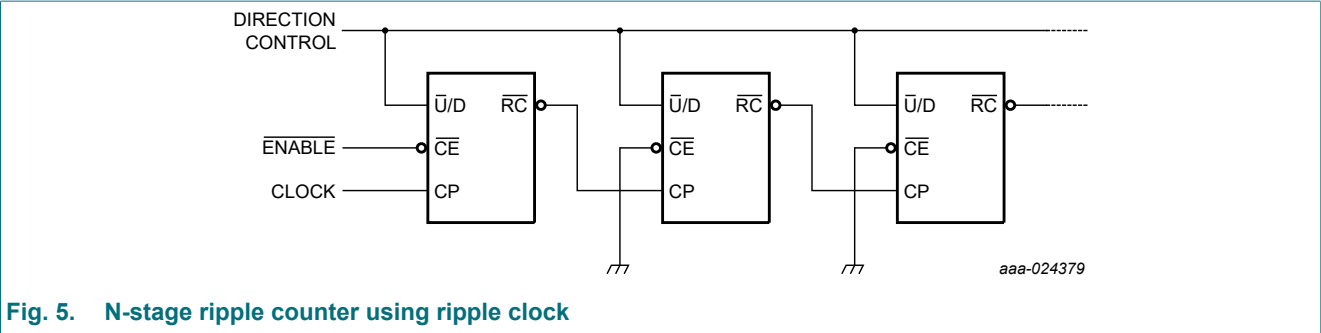
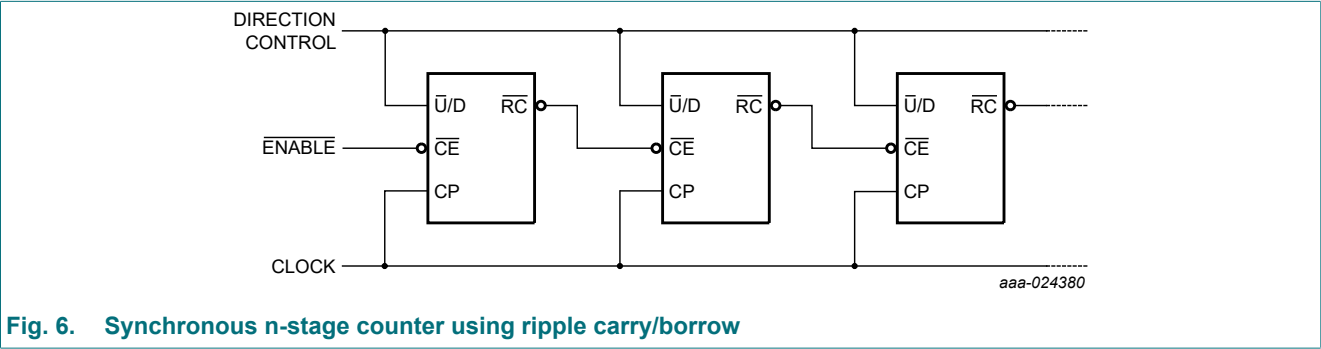
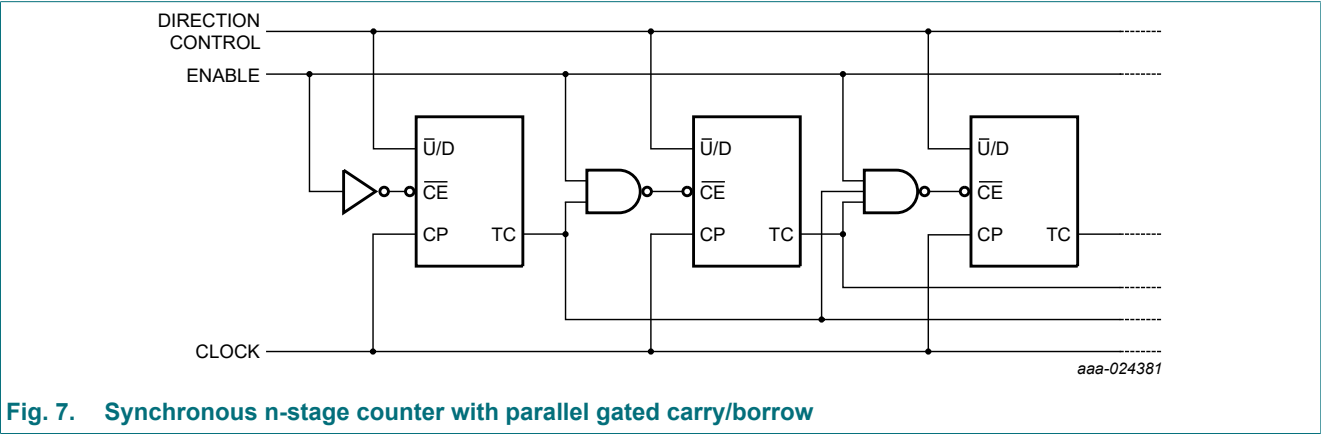

Fig. 5. N-stage ripple counter using ripple clock
Fig. 6. Synchronous n-stage counter using ripple carry/borrow
Fig. 7. Synchronous n-stage counter with parallel gated carry/borrow
The 74HC191 is an asynchronously presettable 4-bit binary up/down counter. It contains four master/slave flip-flops with internal gating and steering logic to provide asynchronous preset and synchronous count-up and count-down operation. Asynchronous parallel load capability permits the counter to be preset to any desired value. Information present on the parallel data inputs (D0 to D3) is loaded into the counter and appears on the outputs when the parallel load ($\overline{PL}$) input is LOW. This operation overrides the counting function. Counting is inhibited by a HIGH level on the count enable ($\overline{CE}$) input. When $\overline{CE}$ is LOW internal state changes are initiated synchronously by the LOW-to-HIGH transition of the clock input. The up/down ($\overline{U/D}$) input signal determines the direction of counting as indicated in the function table. The $\overline{CE}$ input may go LOW when the clock is in either state, however, the LOW-to-HIGH $\overline{CE}$ transition must occur only when the clock is HIGH. Also, the $\overline{U/D}$ input should be changed only when either $\overline{CE}$ or CP is HIGH. Overflow/underflow indications are provided by two types of outputs, the terminal count (TC) and ripple clock ($\overline{RC}$). The TC output is normally LOW and goes HIGH when a circuit reaches zero in the count-down mode or reaches '15' in the count-up-mode. The TC output will remain HIGH until a state change occurs, either by counting or presetting, or until $\overline{U/D}$ is changed. Do not use the TC output as a clock signal because it is subject to decoding spikes. The TC signal is used internally to enable the $\overline{RC}$ output. When TC is HIGH and $\overline{CE}$ is LOW, the $\overline{RC}$ output follows the clock pulse (CP). This feature simplifies the design of multistage counters as shown in Fig. 5 and Fig. 6. In Fig. 5, each $\overline{RC}$ output is used as the clock input to the next higher stage. It is only necessary to inhibit the first stage to prevent counting in all stages, since a HIGH on $\overline{CE}$ inhibits the $\overline{RC}$ output pulse. The timing skew between state changes in the first and last stages is represented by the cumulative delay of the clock as it ripples through the preceding stages. This can be a disadvantage of this configuration in some applications. Fig. 6 shows a method of causing state changes to occur simultaneously in all stages. The $\overline{RC}$ outputs propagate the carry/borrow signals in ripple fashion and all clock inputs are driven in parallel. In this configuration the duration of the clock LOW state must be long enough to allow the negative-going edge of the carry/borrow signal to ripple through to the last stage before the clock goes HIGH. Since the $\overline{RC}$ output of any package goes HIGH shortly after its CP input goes HIGH there is no such restriction on the HIGH-state duration of the clock. In Fig. 7, the configuration shown avoids ripple delays and their associated restrictions. Combining the TC signals from all the preceding stages forms the $\overline{CE}$ input for a given stage. An enable must be included in each carry gate in order to inhibit counting. The TC output of a given stage is not affected by its own $\overline{CE}$ signal therefore the simple inhibit scheme of Fig. 5 and Fig. 6 does not apply. Inputs include clamp diodes. This enables the use of current limiting resistors to interface inputs to voltages in excess of V_{CC} .